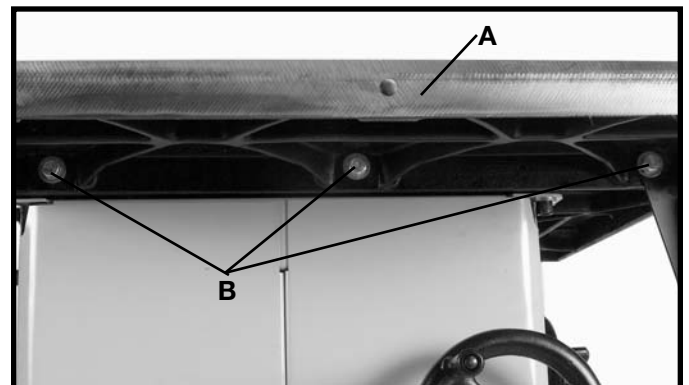
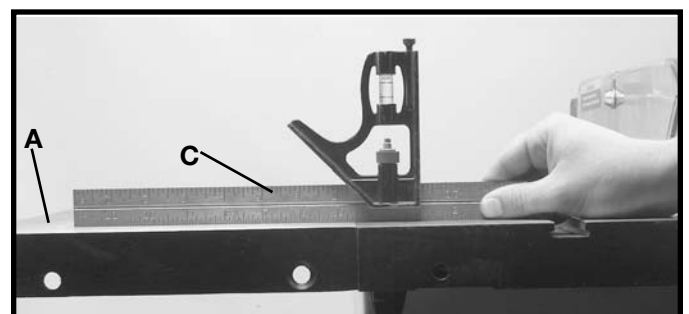

Fig. 5
Fig. 6
Assemble the extension wing (A) Fig. 5, to the left side of the saw table using the three 7/16"-20x1 1/4" hex head screws (B) and 7/16" flat washers supplied. **NOTE: MAKE SURE FRONT EDGE OF WING IS FLUSH TO OR SLIGHTLY BEHIND THE FRONT EDGE OF THE TABLE.** Use a straight edge (C) Fig. 6, to make sure the extension wing (A) is level with the saw table before tightening the screws (B) Fig. 5.